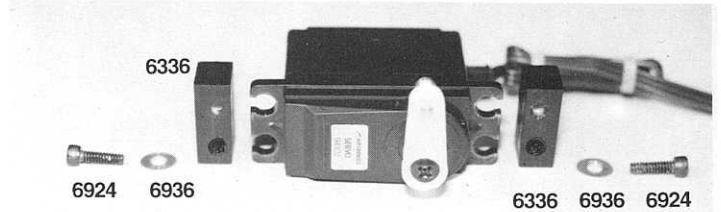

Fig. 130
6) Remove two #6936 #4 aluminum flat washers, and two #6924 4-40 x 3/8" socket head cap screws from the same bag. 7) Place one of the #4 washers on each #6924 screw and use them to install the servo mounting blocks onto the servo as shown in fig. 130. 8) Now reinstall the servo into the chassis using the #6292 flat head screws.